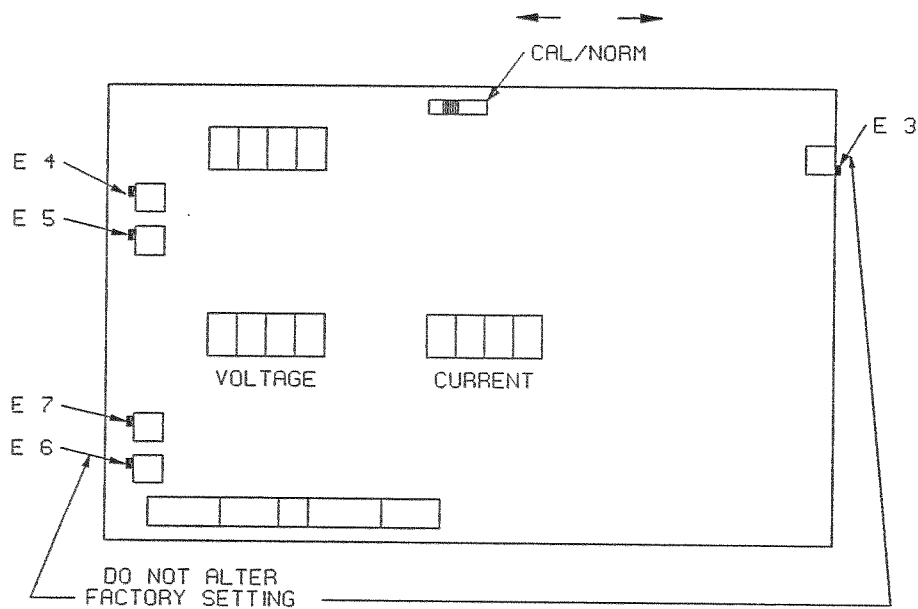

FIGURE 9: CALIBRATION POINTS
1. Remove the controller from its enclosure and set it on a flat insulated surface. All calibration trimmers are located on the large circuit board located directly behind the front panel. Each is identified with a letter E followed by a number. Only trimmers E4, E5, and E7 may be adjusted in this procedure. The settings of all other trimmers must not be altered. See Figure 9 for help in locating trimmers.
3. Place the CAL/NORM switch in the CAL position, as shown in Figure 9.
6. Place the CAL/NORM switch back to the NORM position, as shown in Figure 9.